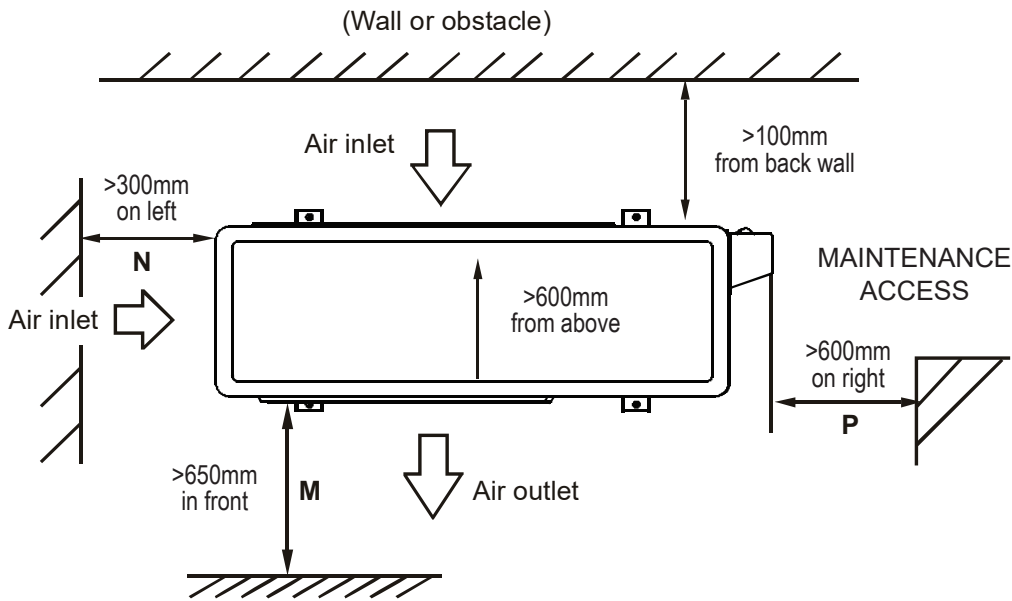

Figure 1.
- The minimum distance between the outdoor unit and walls/obstacles described in the installation chart does not correlate directly to installations in enclosed spaces. In these cases at least two of the three sides should remain open (M, N, P). Refer to "Figure 1." on page 24